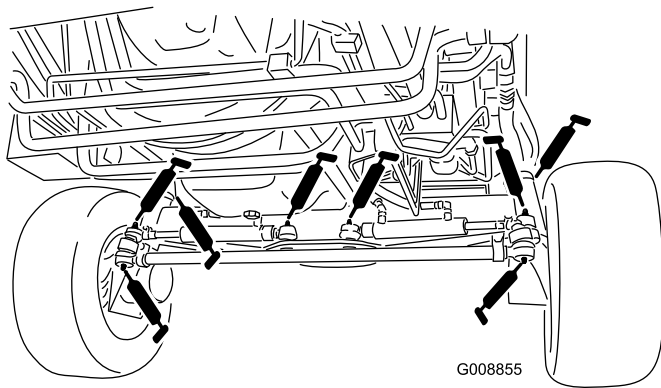

Figure 50
- Steering cylinder ball joints (4) (Figure 50)
- Tie rod ball joints (2) (Figure 50)
- King pin bushings (2) (Figure 50)